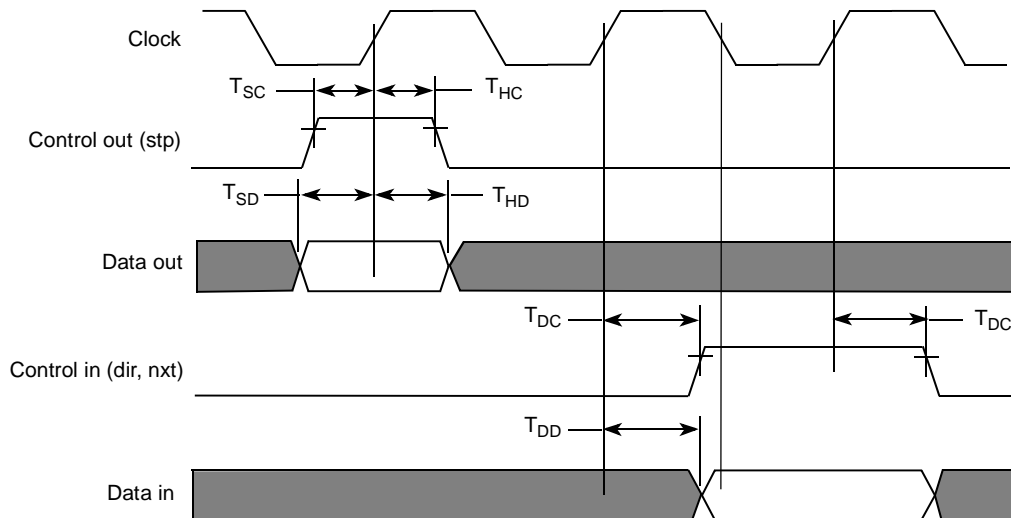

Figure 84. USB ULPI Interface Timing Diagram
The high speed (HS) interface is supported via the ULPI (Ultra Low Pin Count Interface). Figure 84 depicts the USB ULPI timing diagram, and Table 63 lists the timing parameters.